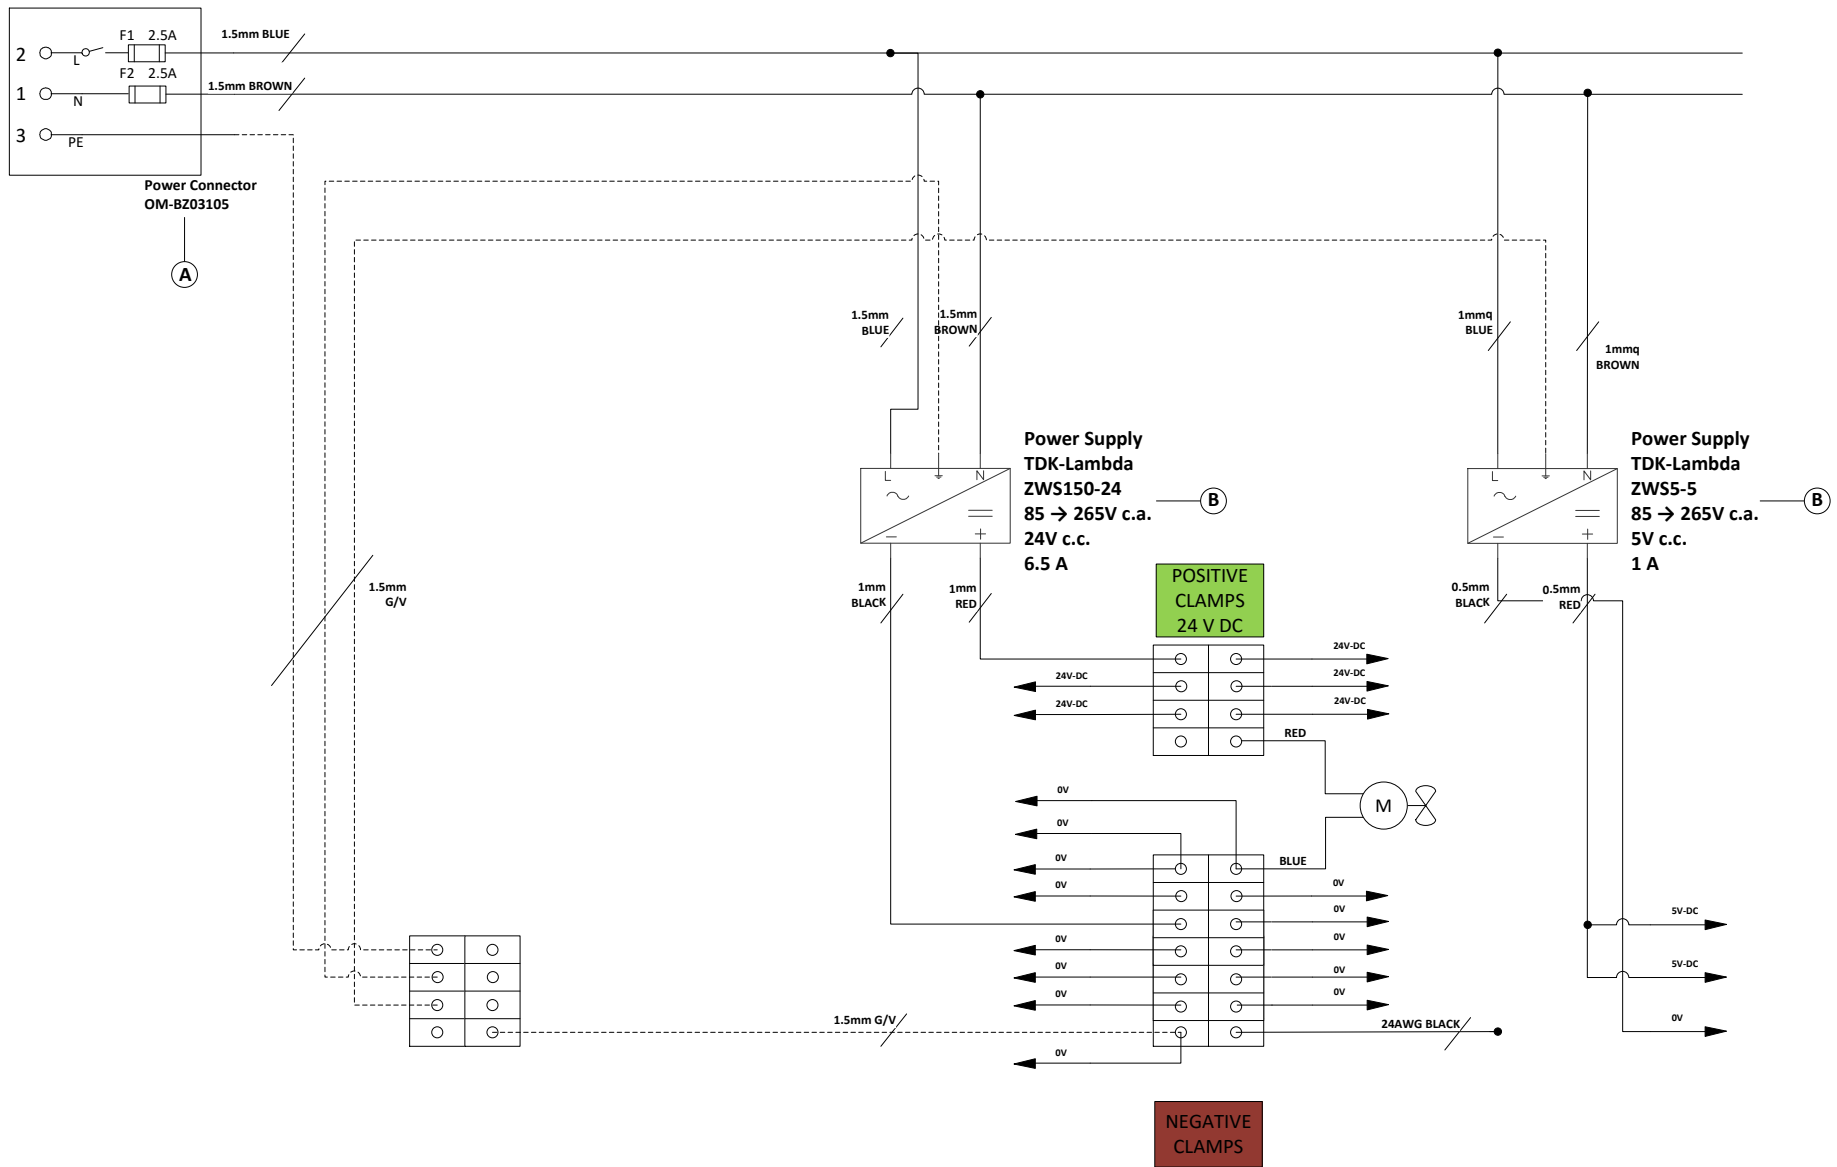

Figure 1 AC section wiring diagram
Figure 1 shows the alternating current (AC) section, designed to connect internal power supplies (see Figure 1 label C) in parallel to low voltage power grid.